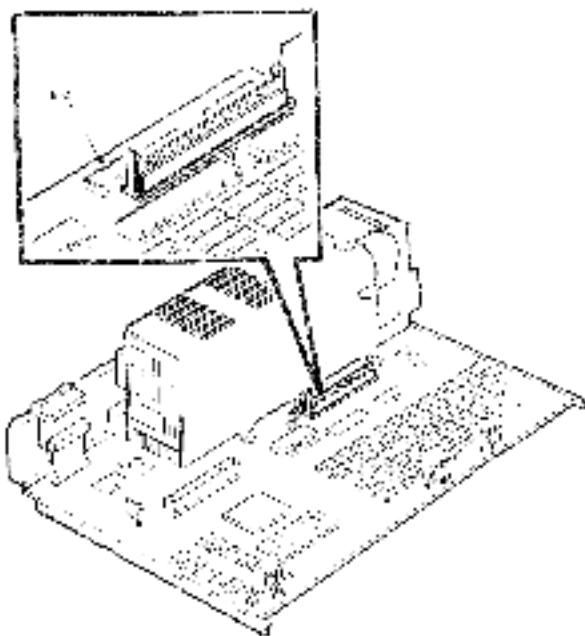

Figure 2-40 System ID PROM
10. Use a flat-blade screwdriver to lift out the PROM or location E60 (Figure 2-40).